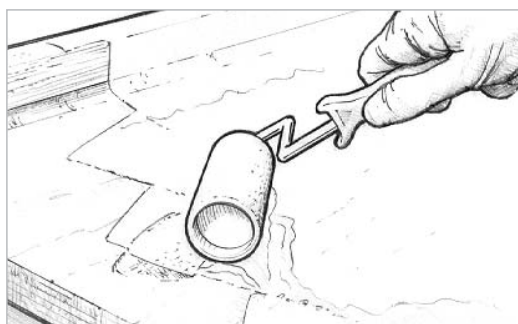

Figure 9-14 Wet out porous surfaces before applying thickened fairing compound.
2. Wet out porous surfaces with unthickened epoxy (*Figure 9-14*).